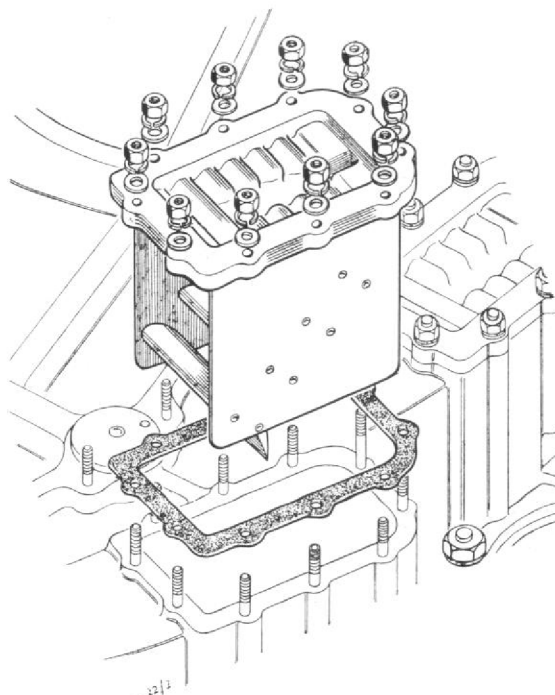

Fig. 1. Deflector, pre-mod. 843.
3. Withdraw each cover complete with its casing and vane assembly, Fig. 1, and place it in transport box T.73073. Remove the joint washer fitted between each deflector cover and the diffuser casing. This operation on 48 Mk. 1 engines will release the two outboard ignition unit mounting brackets.